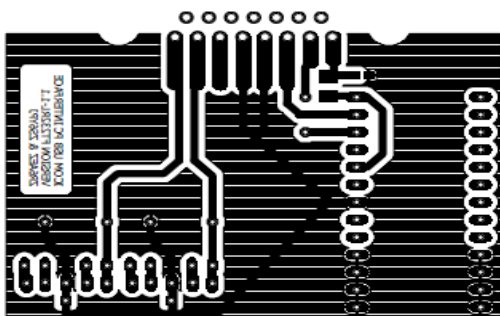

Figure 3: ICOM USB interface PCB copper side (actual size)
- (a) Prepare the transfer image: Using your image manipulation software, copy/rotate the PCB underside image (use Figure 3). Note that the image of the underside copper is viewed as if from the top through a transparent board.